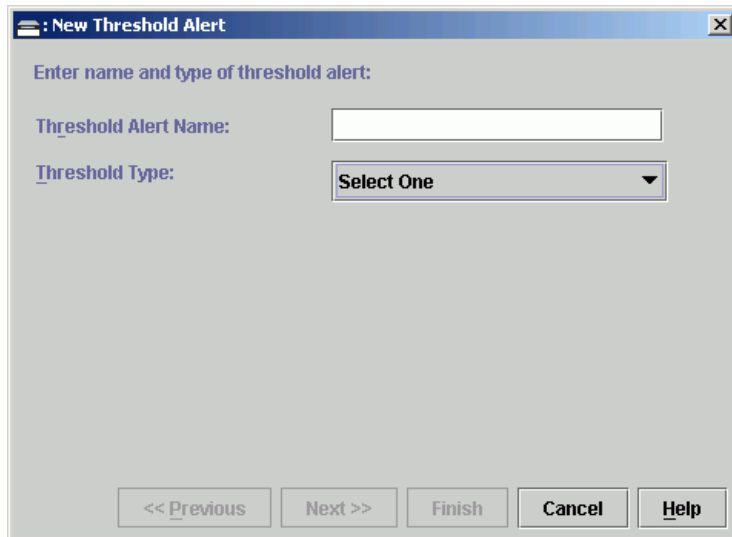

Figure 2-96 New Threshold Alert Dialog Box (Screen 1)
2. Click *New*. The *New Threshold Alert* dialog box (screen 1) displays (Figure 2-96 on page 2-106).